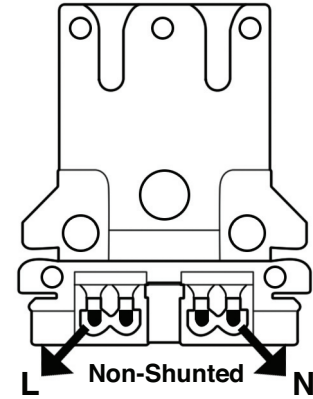

Figure 1. - Tombstone Lamp Holder Configuration
5. Change the shunted tombstone to non-shunted tombstone. (See Figure 1)
6. Connect the black line wire (+) wire to one end of the non-shunted tombstone and connect the neutral wire (-) to the other end of the tombstone. (See Figure 1)